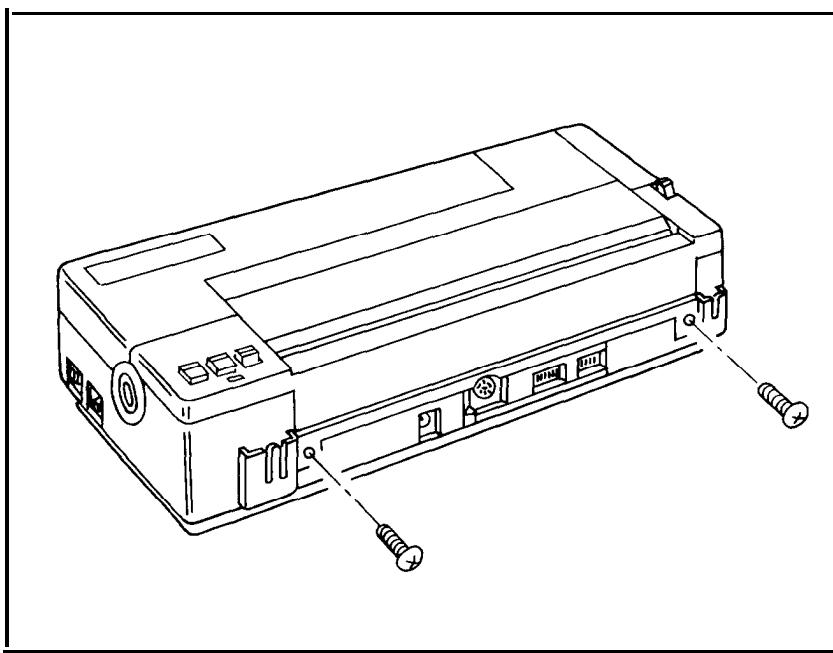

Figure 2-4 . Removing the screws
2. Remove the two screws on the **battery holder cover** at the back of the printer by using a Phillips screwdriver (Figure 2-4).